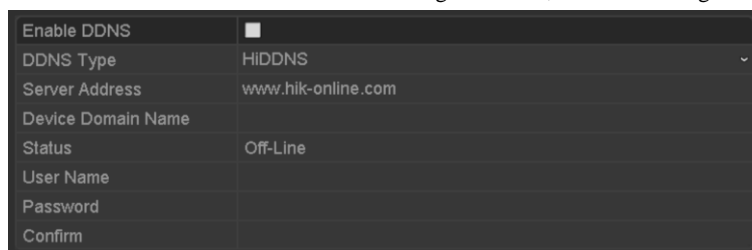

Figure 9. 5 DDNS Settings Interface
2. Select the **Extranet Access** tab to enter the DDNS Settings interface, as shown in Figure 9. 5.